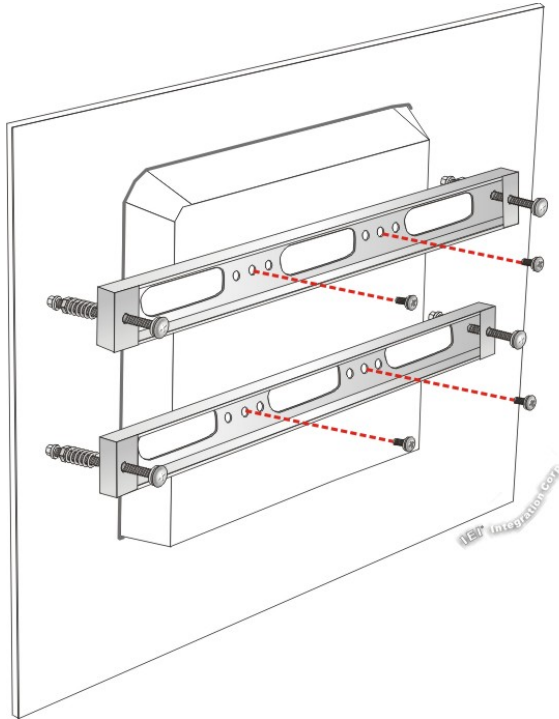

Figure 3-20: Securing Panel Mounting Brackets
- Step 7:** Secure the two panel mounting brackets to the rear of the panel PC by inserting the four retention screws into the VESA mounting holes and tightening them (**Figure 3-20**).